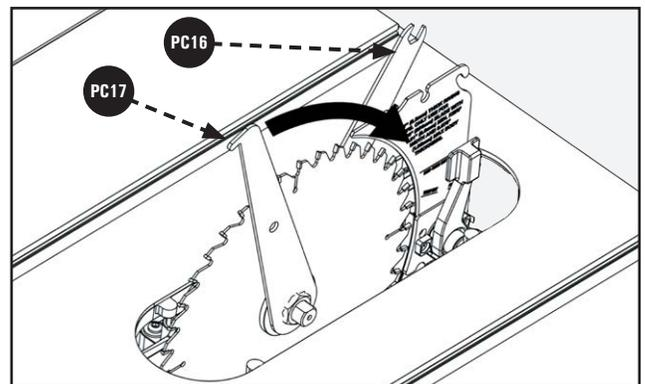

Figure 16
7. Tighten Nut with Blade Wrenches **PC16** and **PC17**. Open End Wrench will fit on the Arbor Shaft between the Inner Flange Washer **D** and the Motor Assembly (if necessary, turn Arbor Shaft to align flats on the Arbor Shaft to the Wrench). Closed End Wrench will fit on the Nut. See Figure 16.
Details for positioning the Riving Knife are on page 28 **RIVING KNIFE POSITION AND ALIGNMENT** Section. See Figure 16.